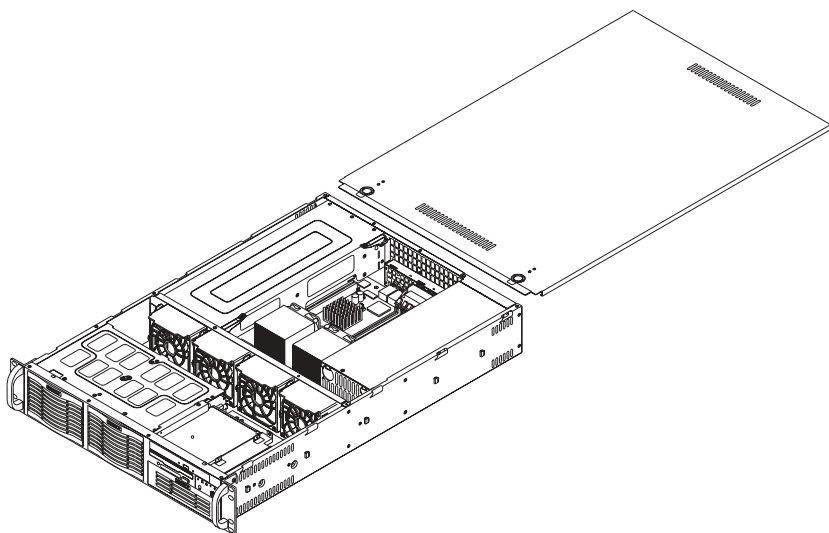

Figure 2-5. Accessing the Inside of the Server
1. Accessing the inside of the 6023P-i (see Figure 2-5):